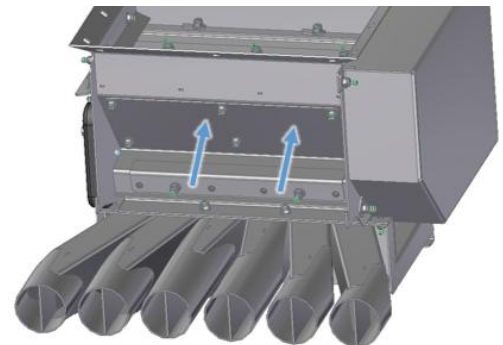

Figure 41
- When the fixing plate is screwed on tight again after the adjustment, it presses the brush over the bolts with the TX25 drive further against the seeding shaft (see Figure 41).